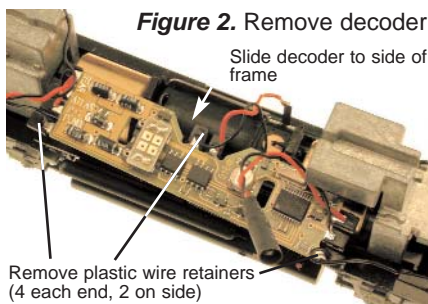

Figure 2. Remove decoder
3. Slide the board to one side of the frame to remove the black plastic wire retainers that connect the wires to the board. (*Figure 2*) Slide the board to the other side to remove the remaining wire retainers. There are 4 retainers on each end and 2 on the side for the motor connection.